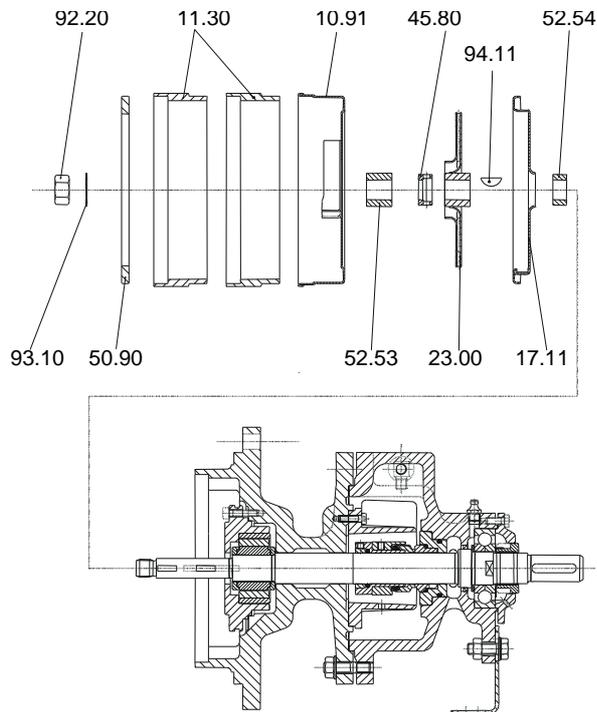

Fig. 2
4. Dismantle intermediate ring 50.90, blind stages 11.30 and intermediate piece 10.91. If restricted, these parts can remain in the housing (fig. 2).
5. Bend up tab washer 93.10 and unscrew impeller nut 92.20 (fig. 2).
6. Remove lock washer 93.10, distance piece 52.53, lantern ring 45.80 and impeller 23.00 (fig. 2).
7. Remove spring washer 94.11, intermediate piece 17.11 and distance piece 52.54 (fig. 2).